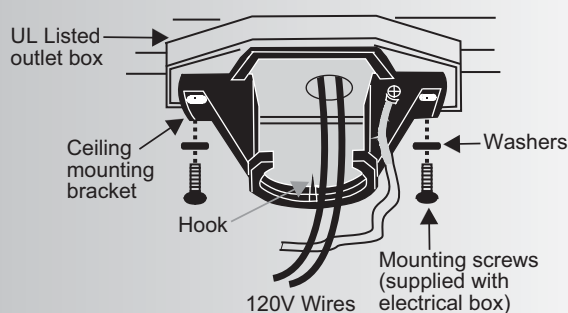

Fig. 9
Step 4. Pass the 120 volt supply wires from the ceiling outlet box through the center of the ceiling mounting bracket. (Fig. 9)
Step 5. Attach the ceiling mounting bracket to the outlet box using the screws and washers included with the outlet box. (Fig. 9)